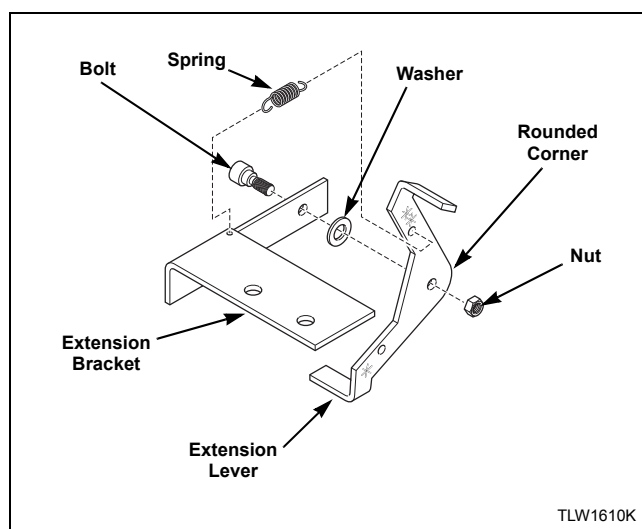

Figure 35
3. Install extension lever with rounded corner facing away from extension bracket using bolt, washer and nut. Refer to *Figure 35*.
4. Install spring to extension bracket with hook facing down. Install other end of spring to extension lever with hook facing left while standing in front of unit. Refer to *Figure 35*.